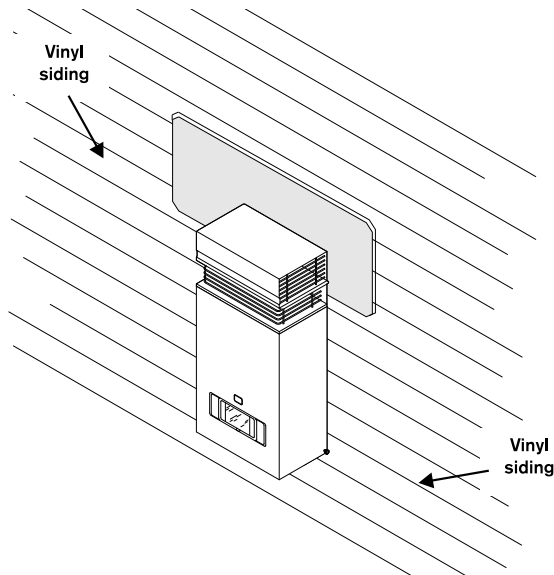

Fig. 7
The GWH-425-HNO is design certified for installation directly on a combustible wall. (see 3.4 Mounting installation) For installation on vinyl siding see Fig. 7. Keep the area below the heater free of combustible material.
**Warning:** Do not mount heater directly to vinyl siding. With vinyl siding surfacing, a 6' x 4' area of the siding must first be covered or replaced with wood or other non-plastic made material. See Fig. 7.